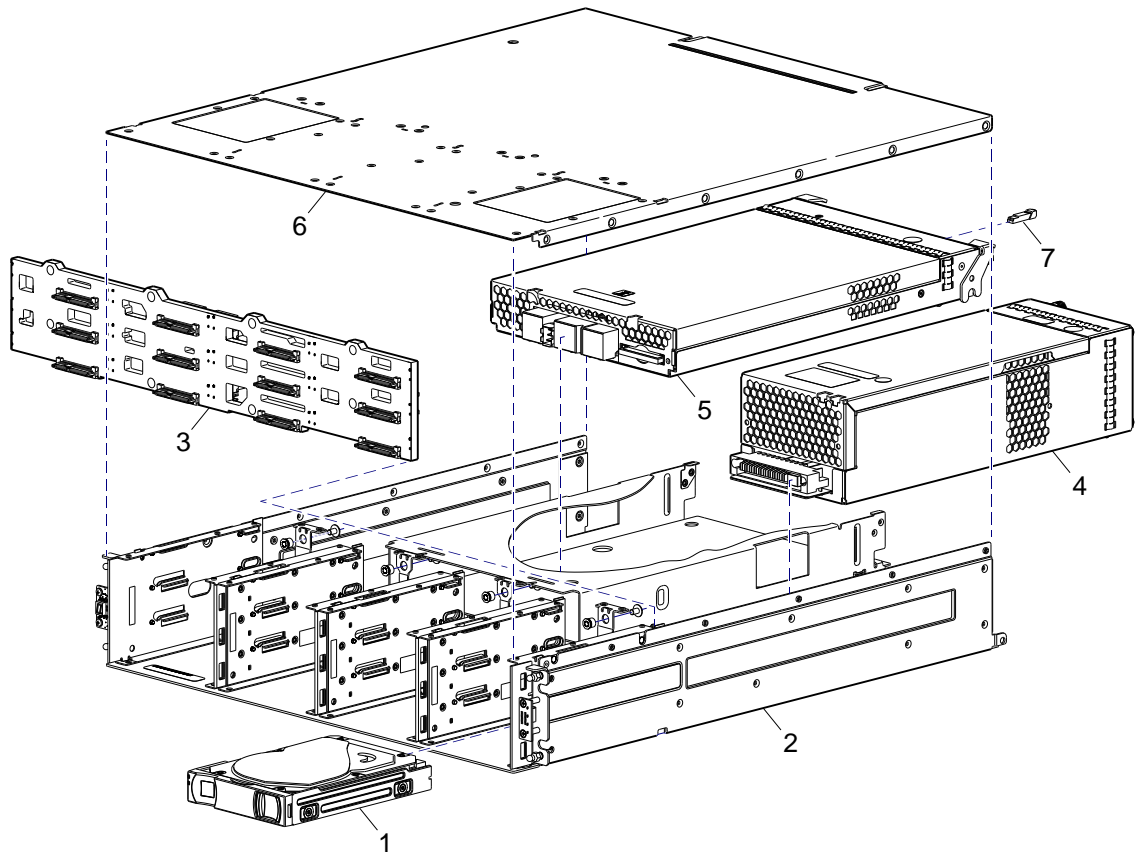
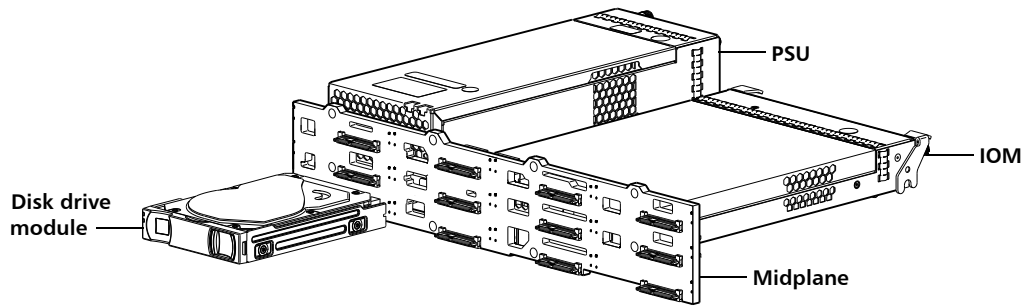
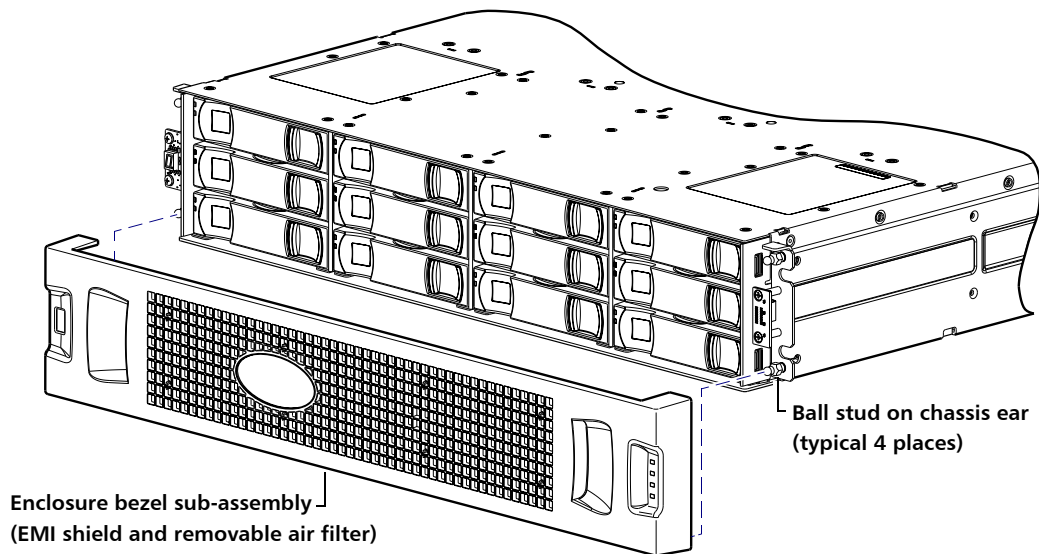

Figure 33 Controller enclosure exploded view (2U12)
Figure 35 Controller enclosure architecture — internal components sub-assembly (2U12)
Figure 36 Partial controller enclosure assembly showing bezel alignment (2U12)
- Exploded view: Figure 33 on page 226
- Internal components sub-assembly: Figure 35 on page 227
Figure 33 through Figure 35 are shown with the enclosure bezel removed.
The enclosure illustration in Figure 33 intentionally does not show exploded ear covers. See Figure 36 on page 227 for an illustration showing how the bezel aligns for attachment to the enclosure front panel, via press-fit onto four mounting ball studs located on chassis ears.
The 12-drive enclosure includes a bezel sub-assembly that attaches to the front of the chassis (see Figure 36). The bezel — comprised of a vented cover attached to an EMI shield — is pre-assembled and foam-packed within a box contained in the enclosure master shipping container. The bezel might optionally include a removable air filter that can be serviced or replaced.